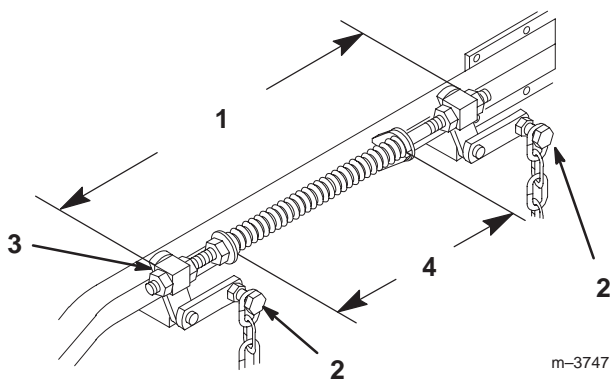

**Figure 59**
4. Raise the deck to the transport position and take all force off of the two large deck lift springs by loosening nut in front of each spring (Fig. 59).
5. Place two 1-1/2 in. (38 mm) thick blocks under rear left and right lower edge of mower. Place one 2-1/4 in. (57 mm) block under front center lower edge of mower. Lower mower to the 2 in. (51 mm) height-of-cut position (Fig. 59).
1. Raise deck lift lever to the transport position, (Fig. 59).